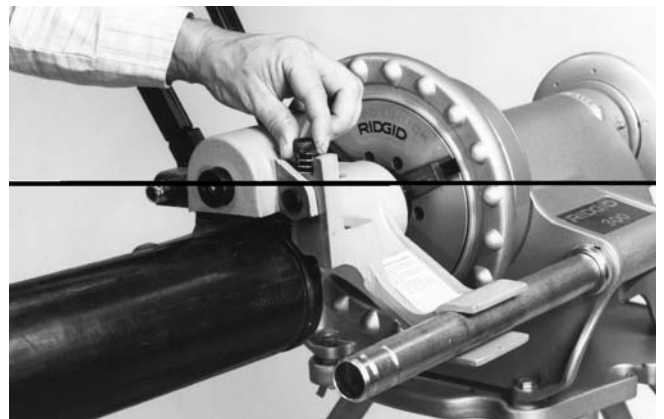

Figure 11 – Tighten Depth Adjustment Screw
3. Tighten down depth adjustment screw the number of turns indicated in Chart B. (Figure 11)